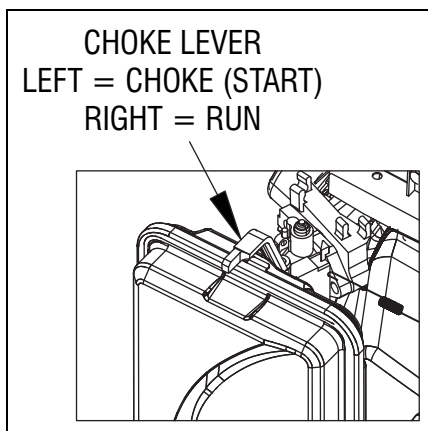

Figure 3-3. Choke
2. Move the choke lever to the START position (Figure 3-3).